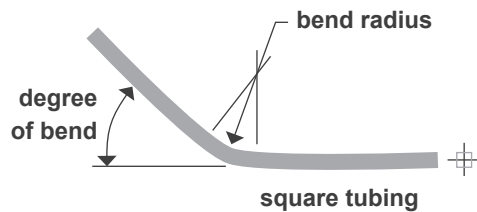

FIGURE 12
Step 5: Measure the gap between the stationary and moving dies ($\frac{1}{8}$ " – $\frac{3}{4}$ " typically). Measure the distance from the right edge of the moving die to the end of the tube extended through the moving die. Add these two measurements. The sum is the length of the tubing to the start of the bend (see Figure 12).
Step 6: To adjust the length, use foot switch to loosen the tubing in the dies and move the tubing in the appropriate direction. Repeat steps 4 and 5 until the length is correct. Tighten set screw (93) to hold the tubing during the bending process. With round tubing or pipe, slide the proper set collar onto the tube up to the moving die and tighten the set screw.
Step 7: Look at the magnetic gauge (66). The edge of the tube gauge (11) should be on the 0/45/90/135 line. Slide the magnetic gauge on the cylinder to 'zero' the gauge.
Step 8: Bend the tube by moving the control valve lever down. As the proper degree of bend is approached, slow the speed by moving the control valve lever up toward the center position. When the proper angle is reached, stop the bend and retract the cylinder slightly, allowing the sunbursts to rotate from the spring back. Note the approximate degrees of spring back. Making sure the sunburst pusher (12) is properly seated in the sunbursts (3), overbend the tubing by the degrees of spring back.
Step 9: Retract the cylinder again (allowing the sunbursts to rotate from the spring back) far enough to allow for removal of the hitch pin (15). Mark the tubing at the end of the moving die and loosen the set screw (93). Remove the hitch pin and moving die.
BEND RADIUS – Refer to Figures 12, 13